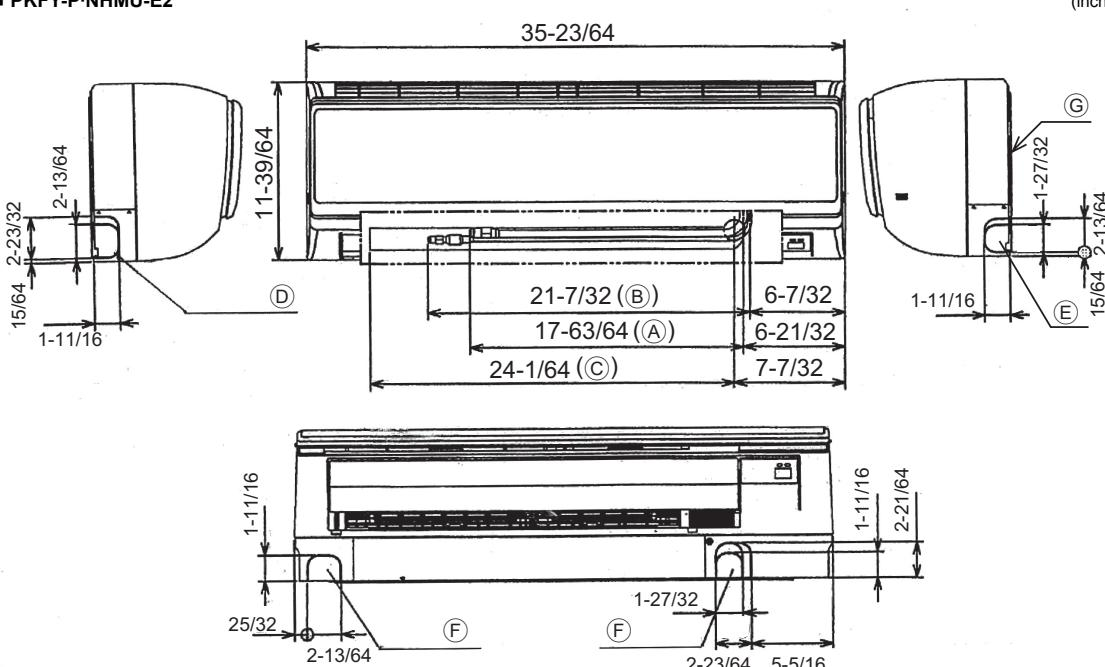
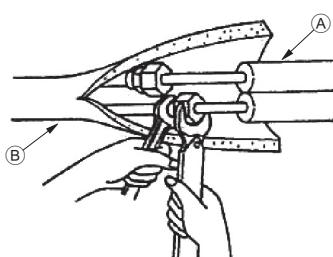

Fig. 4-2
Fig. 4-3
4.2. Positioning refrigerant and drain piping (Fig. 4-2)
- Ⓖ Mount board ①
4.3. Refrigerant piping (Fig. 4-3)